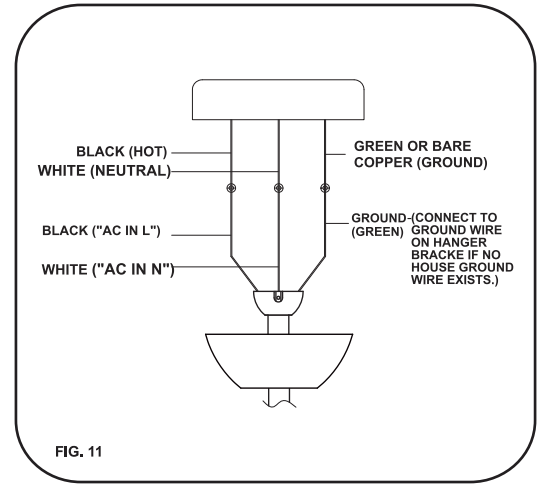

FIG. 11
Step 1. Motor to House Supply Wires Electrical Connections: Connect the **WHITE** wire (Neutral) from the outlet box to the **WHITE** wire marked 'AC in N' from the motor. Connect the **BLACK** wire (Hot) from the outlet box to the **BLACK** wire marked 'AC in L' from the motor. Secure all wire connections with the plastic wire nuts provided. (Fig. 11)
Step 2. If your outlet box has a GROUND wire (Green or Bare Copper) connect this wire to the Hanger Ball and Hanger Bracket Ground wires. If your outlet box does not have a Ground Wire, then connect the Hanger Ball and Hanger Bracket Ground Wires together. Secure wire connection with the plastic wire nut provided. (Fig. 11)